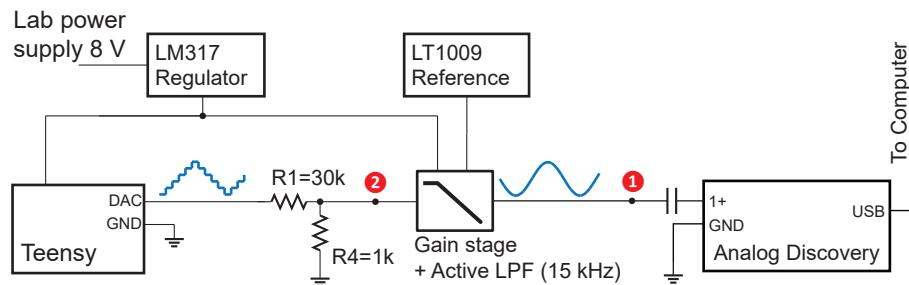

Figure 16: Acquiring signal through Analog Discovery.
- Set up the system according to Fig. 16.
7. Now use the audio cable to acquire the signal after the gain stage (position 2 in Fig. 16). Record the data and compare it with that from the last step. Explain the difference, if there is any.